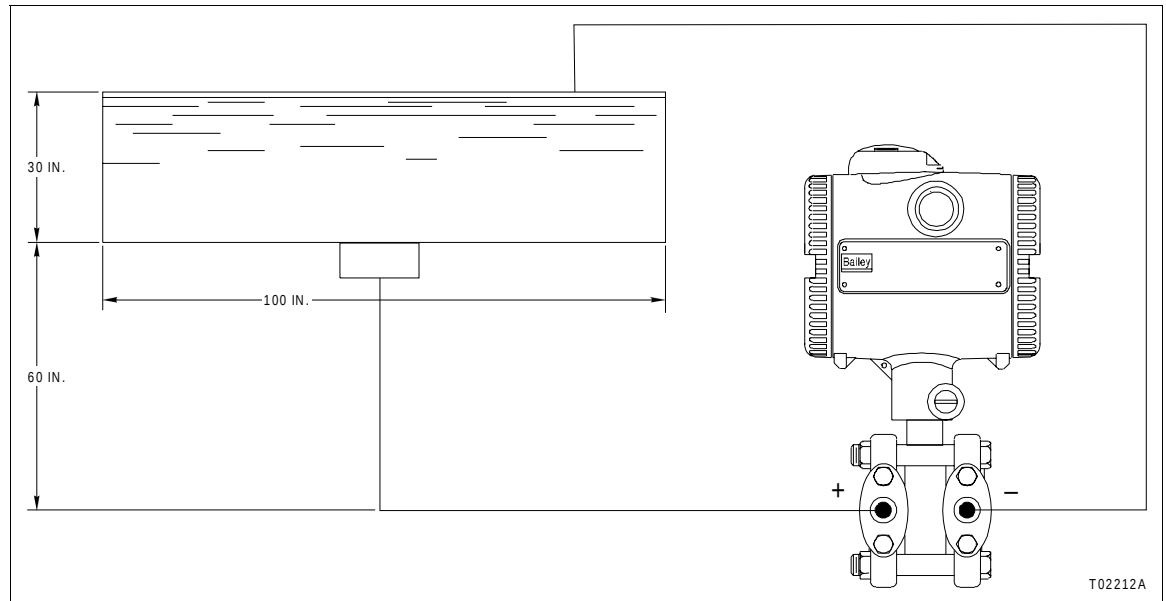

*Figure 2-6. Flat End (Cylindrical) Tank Volume Measurement
Figure 2-6 illustrates a flat end (cylindrical) tank setup. This is a general purpose tank. To calculate the values entered into the transmitter via the communication device:
- Command 144** 2. The empty tank pressure is the PV lower value. If the location of the cell is at the bottom of the tank, then the PV lower value is 0.00 kilopascals (0.00 inches of water). If the location of the cell is below the bottom of the tank (Fig. 2-6), then offset the zero via *CALIBRATE PV LOWER VALUE*. This zero offset is the product of the specific gravity (SG) of the liquid and the distance between the cell and the bottom of the tank.
- Command 145** 3. The full tank pressure is the PV upper value. If the location of the cell is at the bottom of the tank, then the PV upper value is the height of the tank multiplied by the specific gravity of the liquid. If the location of the cell is below the bottom of the tank (Fig. 2-6), the PV upper value is the product of the specific gravity of the liquid and the height of the tank, plus the PV lower value. Use *CALIBRATE PV UPPER VALUE* to set the PV upper value.
Example: A Type PTHDDC pressure transmitter is installed as shown in Figure 2-6, and will be configured in the United States. The tank is filled with water (specific gravity = 1.0). The transmitter has an upper range limit of 120 in. H₂O. The cell is mounted 60 in. below the bottom of the tank. The tank itself is 30 in. in diameter and 100 in. long. The empty volume is zero and the full volume is 306 gal.